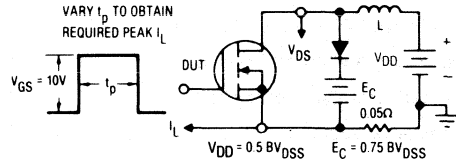

Fig. 14 — Clamped Inductive Test Circuit
3. See Figures 14 and 15. $L = 100\mu\text{H}$
① $T_J = 25^\circ$ C to 150° C.
② Pulse Test: Pulse width ≤ 300 μ s, Duty Cycle $\leq 2\%$.
③ (See Fig. 14 and 15) $L = 100$ μ H
(See Figure 14, $L = 100\mu\text{H}$)